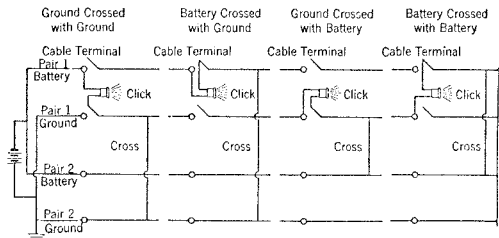

Fig. 13
**5.04** In isolating a cross to a portion of the plant, such as to the drop or block wire plant or to a portion of a drop or block wire make the following test. (See Figure 13.)